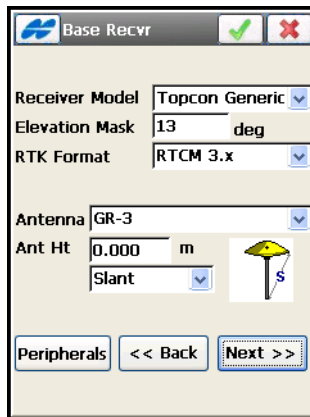

Figure 4-7. Configure Base Receiver
1. Set the parameters for the Base Receiver (Figure 4-7), and tap **Next**: